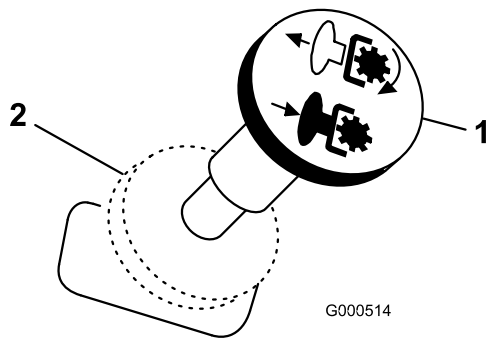

Figure 13
4. Pull out on the power take off (PTO) switch to engage it (Figure 13).
To disengage, push the PTO switch to the **off** position (Figure 13).